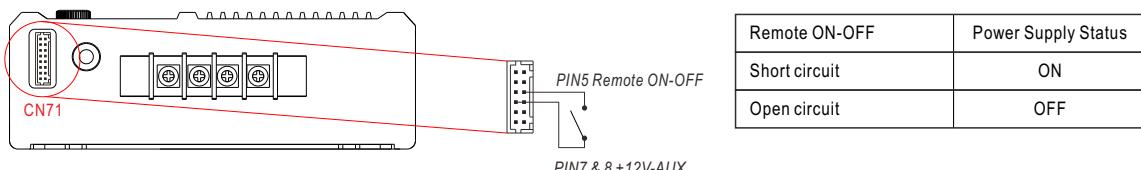

Figure 3-3 Connection of Remote Control
- ◎ Built-in remote ON/OFF control circuit. Refer to Figure 3-3.